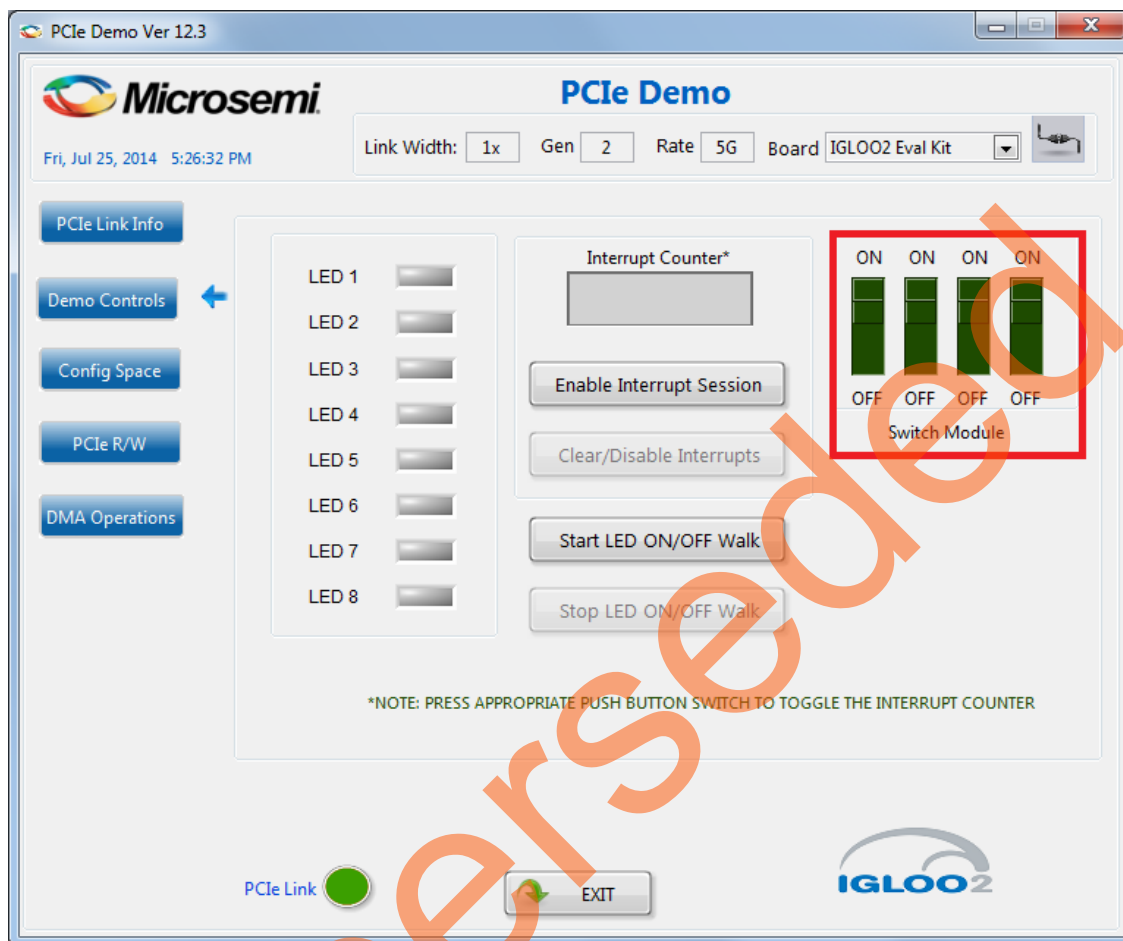

Figure 20 • Demo Controls
- Click **Demo Controls** to display the LEDs options and DIP switch positions, as shown in Figure 20.